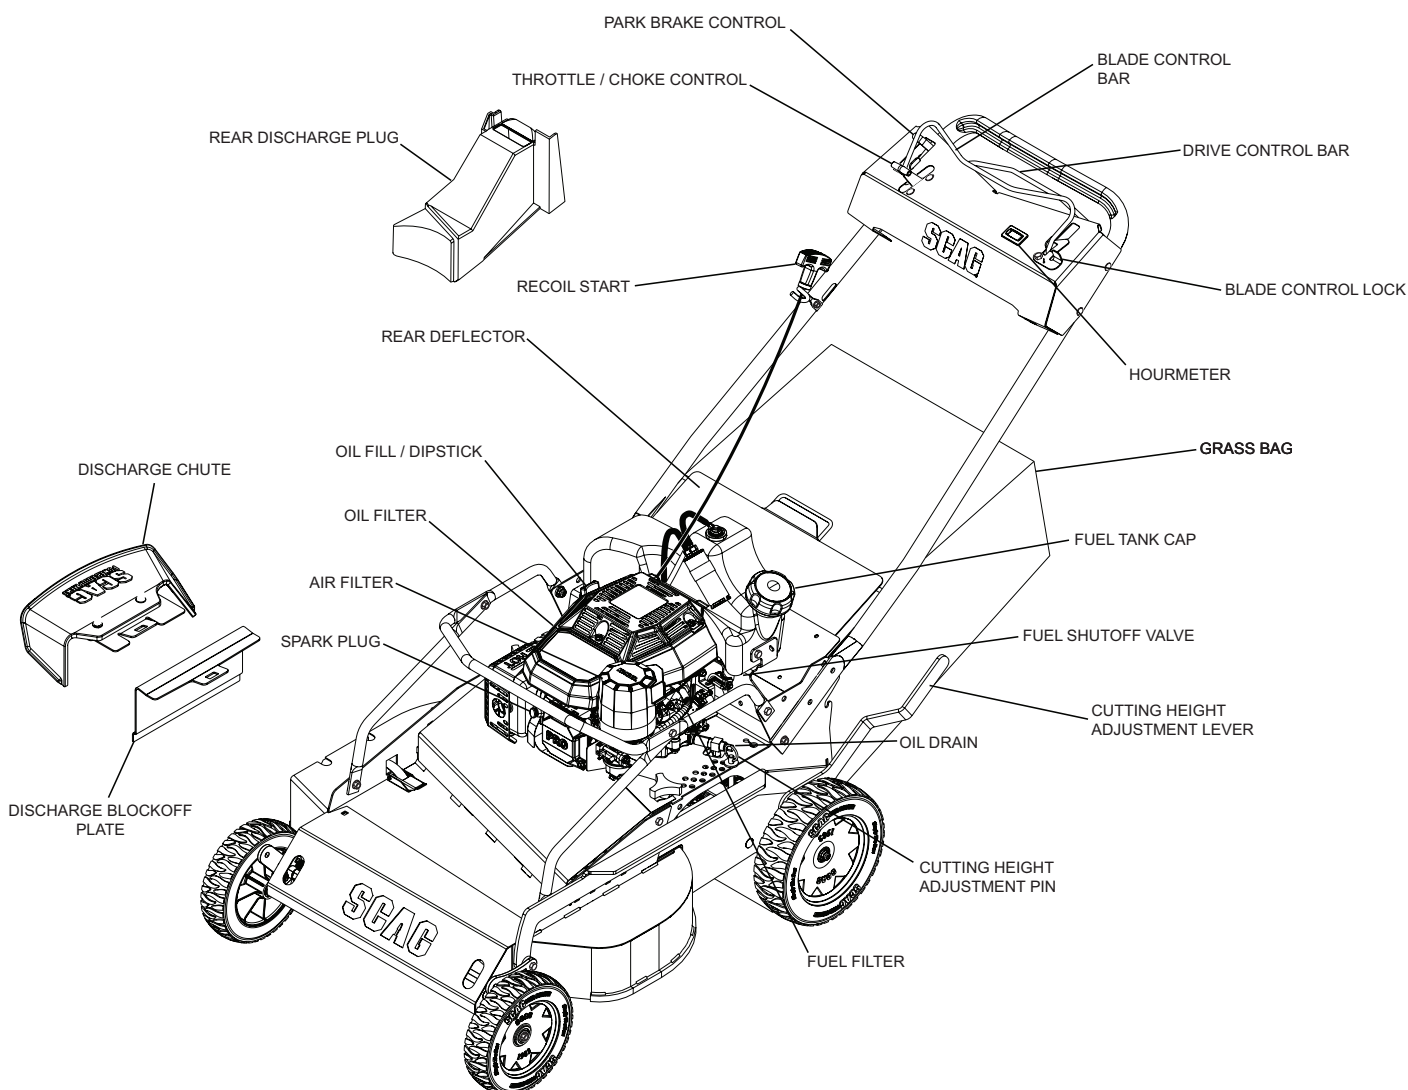

Figure 4-1. Controls and Instruments
1. **Recoil Start (Figure 4-1).** The recoil start is used to start the engine.
2. **Blade Control Bar (Figure 4-1).** Used to engage and disengage the cutter blade drive system. Pulling the control bar will engage the cutter blades. Releasing the control bar will disengage the cutter blades.
3. **Engine Throttle / Choke Control (Figure 4-1).** Used to control the engine speed and choke control. Pushing the lever forward increases engine speed. Pulling the lever back decreases engine speed. Push the lever all the way forward past the detent to engage the choke when starting a cold engine. Full back position is the STOP position. Full forward to detent is the cutting position.
4. **Hourmeter (Figure 4-1).** Indicates the number of hours the engine has been operated. It operates whenever the engine is running.
5. **Drive Control Bar (Figure 4-1).** Used to engage and disengage the mower forward drive system.
6. **Parking Brake Control (Figure 4-1).** Used to engage and disengage the parking brakes. Pull the lever back to engage the parking brake. Push the lever forward to disengage the parking brakes.
7. **Blade Control Lock (Figure 4-1).** Use to lock the blade control bar in the neutral position.
8. **Grass Bag (Figure 4-1).** Use to bag and collect grass clippings while mowing.
9. **Fuel Tank Cap (Figure 4-1).** Use to fill the fuel tank with fuel.
10. **Fuel Shutoff Valve (Figure 4-1).** Used to shut off fuel supply to the engine.
11. **Oil Drain Valve (Figure 4-1).** Used to drain the oil from the engine.
12. **Cutting Height Adjustment Lever (Figure 4-1).** Used to set the cutter deck at the desired cutting height.
13. **Cutting Height Adjustment Pin (Figure 4-1).** Used to set the cutter deck at the desired cutting height.
14. **Fuel Filter (Figure 4-1).** Used to filter the fuel supply to the engine. Refer to engine owner's manual supplied with this unit when servicing.
15. **Discharge Blockoff Plate (Figure 4-1).** Used to shut off the discharge of grass clippings out of the side discharge opening. Install when mulching or using the grass bag.
16. **Discharge Chute (Figure 4-1).** Used to allow the discharge of grass clippings out of the side discharge opening. Install when side discharging.
17. **Spark Plug (Figure 4-1).** Used to supply spark to the engine. Refer to engine owner's manual supplied with this unit when servicing.
18. **Air Filter (Figure 4-1).** Used to filter the air supply to the engine. Refer to engine owner's manual supplied with this unit when servicing.
19. **Oil Filter (Figure 4-1).** Used to filter the oil supply in the engine. Refer to engine owner's manual supplied with this unit when servicing.
20. **Oil Fill / Dipstick (Figure 4-1).** Used to add and check the level of oil in the engine. Refer to engine owner's manual supplied with this unit when servicing.
21. **Rear Discharge Plug (Figure 4-1).** Used to shut off the discharge of grass clippings out of the rear discharge opening. Install when mulching or side discharging.
22. **Rear Deflector (Figure 4-1).** Used to hold the grass bag and rear discharge plug in place during operation.